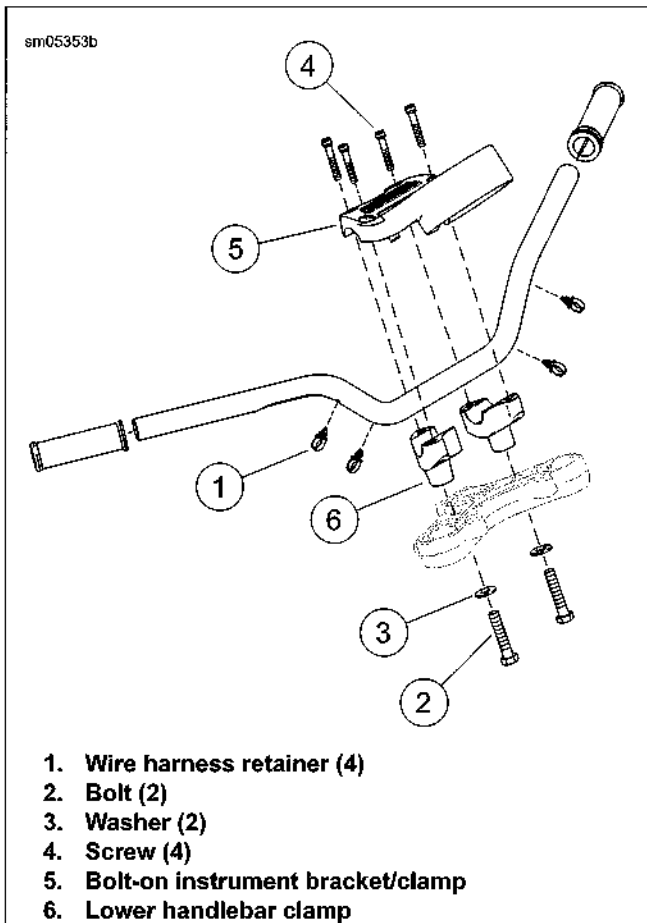

Figure 2-130. Handlebar: All Models except XL 1200C/CP
1. See Figure 2-130. Remove four wiring harness retainers (1). Do not cut into wiring harnesses. Discard retainers.
3. If removing lower handlebar clamps, loosen, but do not remove, two bolts (2) securing lower handlebar clamps (6) to upper fork bracket.
4. Remove screws (4) and instrument bracket (5).
7. If removing lower handlebar clamps, remove two bolts, washers (3) and lower handlebar clamps from upper fork bracket.
Drag bar: See Figure 2-130. See **Installation, XL 1200C.**
Mini-ape: See Figure 2-130. See **Installation, All Models except XL 1200C.**